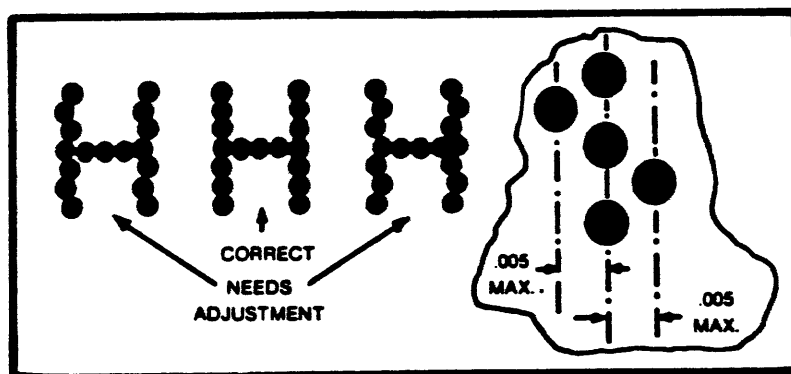

Figure 101 Effect of Magnetic Pickup Phasing Adjustment
- c. Press the ON LINE pushbutton and observe the relative horizontal position of dots in alternate rows. Rotate the MPU arm until the dots in succeeding rows are aligned within .005 inch (Figure 101).